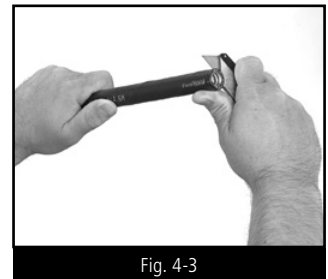
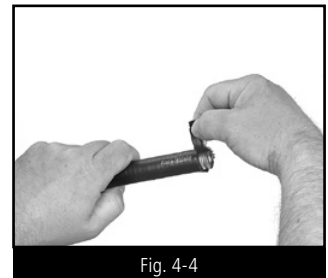

Fig. 4-3
Fig. 4-4
STEP 2 STRIP JACKET (FIG. 4-3, FIG. 4-4)